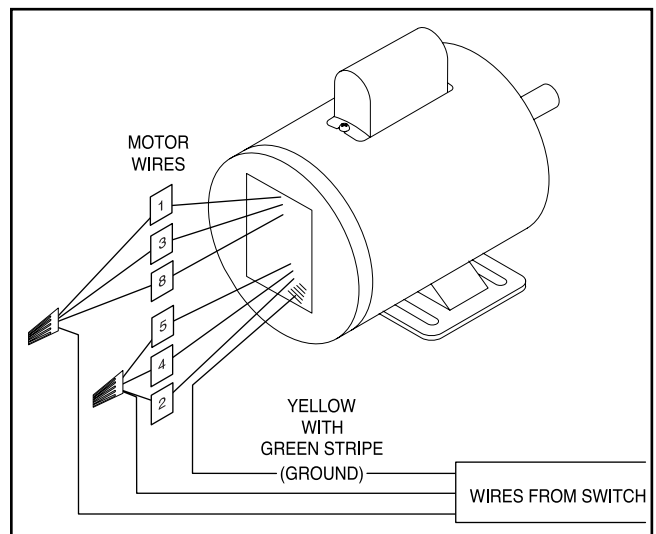

Figure 11.
2. Wire the motor per the diagram in **Figure 11.**